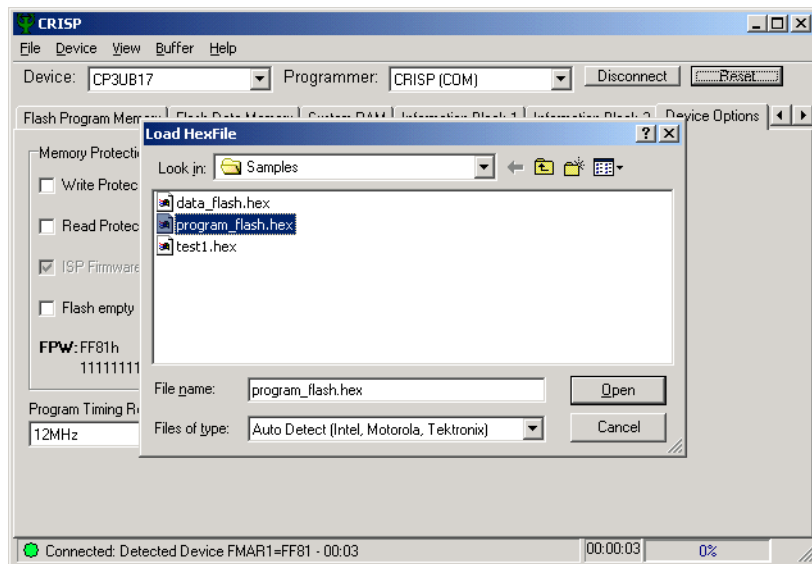

Figure 5-4. Opening the program_flash.hex file
2. **Open the Hex File.** Select the file, as shown in Figure 5-4, and click the Open button.